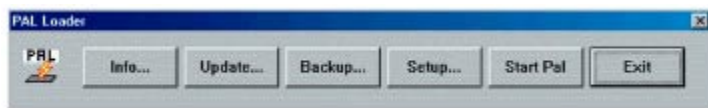

Figure 4-4 PAL Loader Dialog Box
5. Double-click the PAL Loader icon on the computer desktop. The PAL Loader dialog box appears (Figure 4-4).
6. Double-click the PAL Loader icon on the computer desktop. The PAL Loader dialog box appears (Figure 4-4).